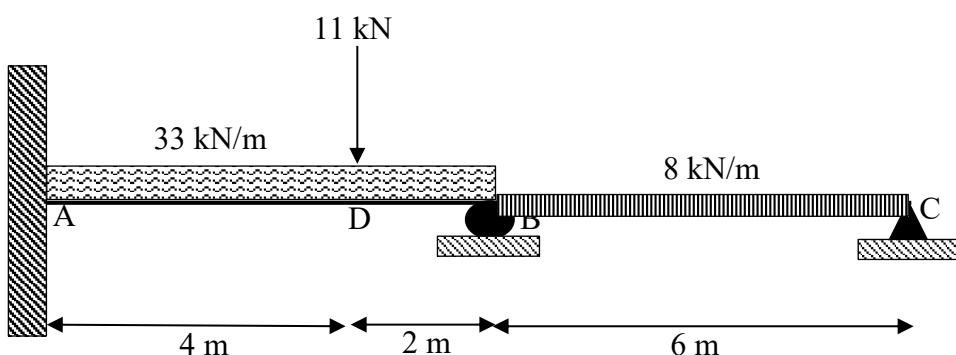

Figure B1 / Rajah B1
The statically indeterminate beam is fixed in support A, while B and C are supported by a roller and pin as shown in Figure B1. The beam carries a 11 kN point load at point D. The beam also carries a uniformly distributed load of 33 kN/m along AB and 8 kN/m along BC. EI value is constant for all members. According to the slope Deflection Method:
- CLO1 (a) Identify the value of fixed end moment for each span in Figure B1.
- CLO1 (b) Identify the slope deflection equations for each span in Figure B1.